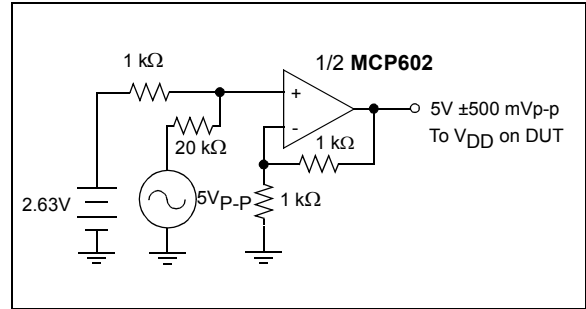

FIGURE 1-4: Power Supply Sensitivity Test Circuit (PSRR).
- 4: V_{DD} = 5V DC ±500 mV_{P-P} @ 1 kHz, see test circuit Figure 1-4.
Note 4: $V_{DD} = 5V$ DC $\pm 500 \text{ mV}_{P-P}$ @ 1 kHz , see test circuit Figure 1-4.
- 4: $V_{DD} = 5V DC \pm 500 mV_{P-P} @ 1 kHz$, see test circuit Figure 1-4.